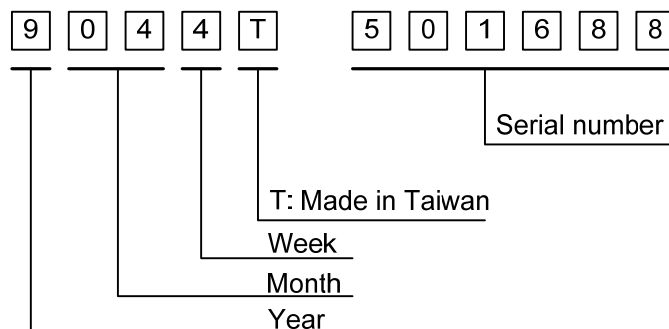

Fig. 14.1
- 1) The lot mark is showing in Fig.14.1. First 4 digits are used to represent production lot T represented made in Taiwan and the last 6 digits are the serial number.